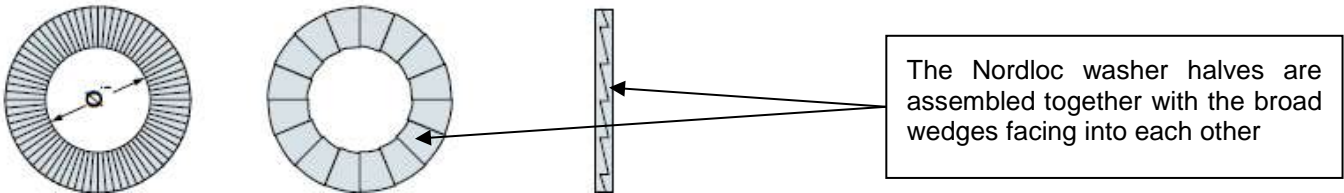

Figure 155 - Nordloc washer halves assembled
- A Nordloc washer pair features two separate halves. Ensure the two halves are installed with the broad wedges of each half contacting each other (not the thin wedges) see Figure 155.